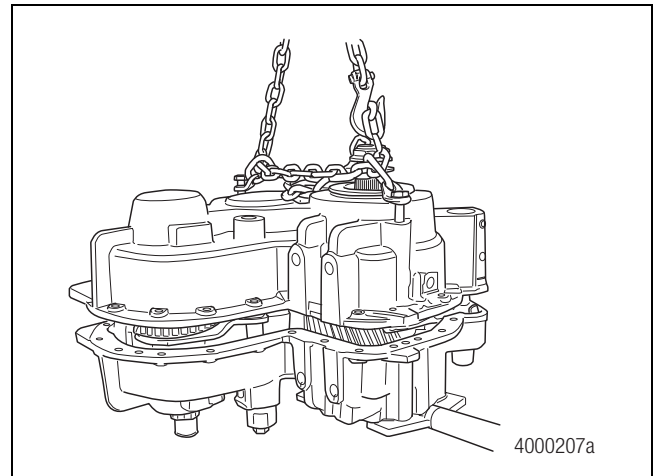

Figure 6.18
14. Use a suitable lifting device to install the rear cover and output shaft as an assembly over the front case. Figure 6.18. Guide the cover over the shift fork and push rod as the cover is being set into place over the case.